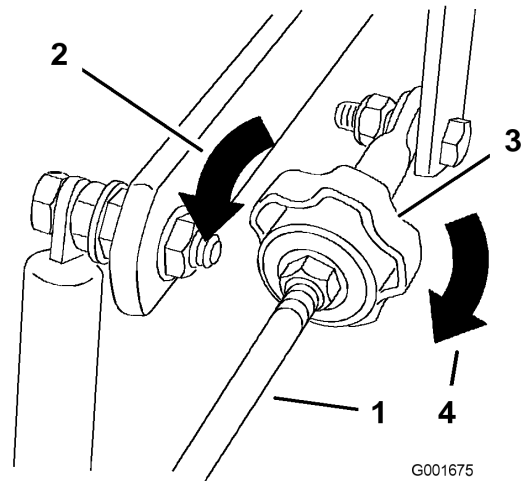

Figure 42
4. To make the machine go right, turn the knob towards the right-side of the machine. Refer to Figure 42.
5. To make the machine go left, turn the knob towards the left-side of the machine. Refer to Figure 42.